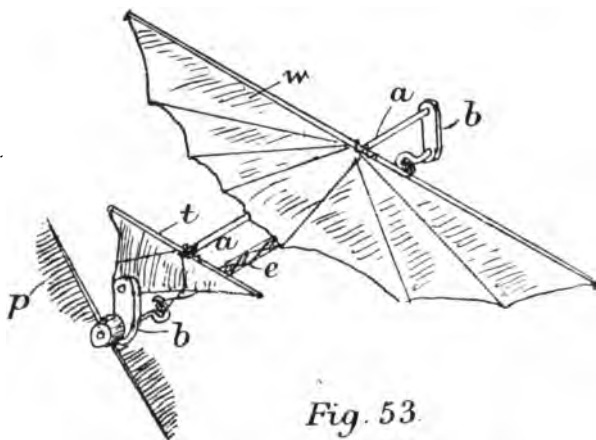

Fig. 53
M. Pinaud carried out many experiments in motive aëroplanes, one of which, a toy, is a modification of Sir George Cayley's device shown by Fig. 53. An aëroplane w and *tail vane* t are attached to a frame a , between the ends b, b' of which is stretched a twisted rubber band e , which, when wound up in tension, rotates a propeller p , affording a sustained oblique flight.